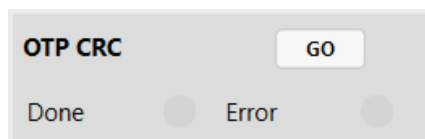

Figure 37: OTP CRC Monitor
32. Figure 37 shows the OTP CRC monitor.